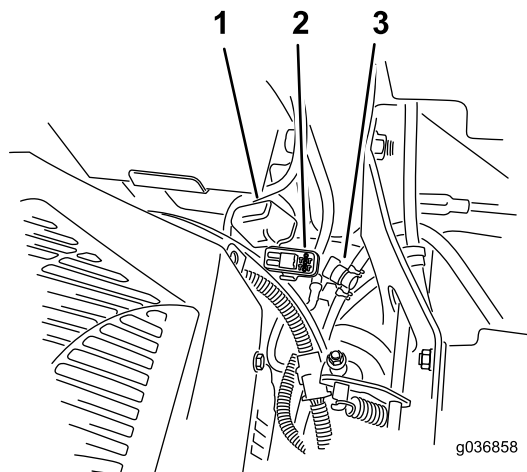

Figure 57
Note: For MyRide machines, ensure that the ground cable does not rub against the trailing arm or lower shock mount (Figure 57).
The fuses are located on the right console next to the seat (Figure 57).
2. Install a new fuse (Figure 57).